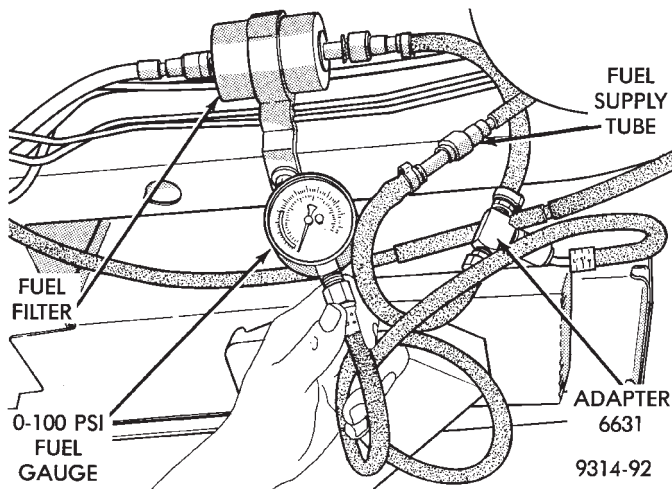

Fig. 30 Checking Fuel Pressure Between Pump and Filter
- (b) Install Fuel Pressure Gauge C-4799 and Fuel Pressure Adapter 6631 in the fuel supply line between the fuel tank and fuel filter (Fig. 30).